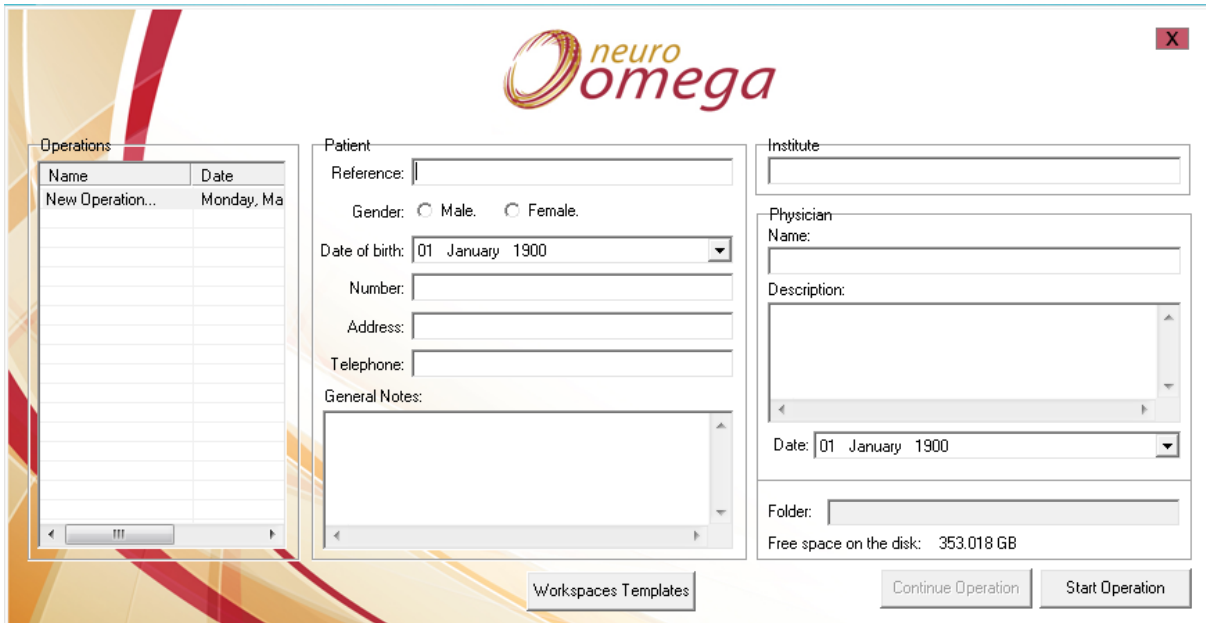

Figure 54: Patient Info Window
2. If the **Patient Info** window (Figure 54) does not appear automatically, double-click the Neuro Omega shortcut.
1. In the **Patient Info** window (see Figure 54), in the **Operations** list, select **New Operation**.